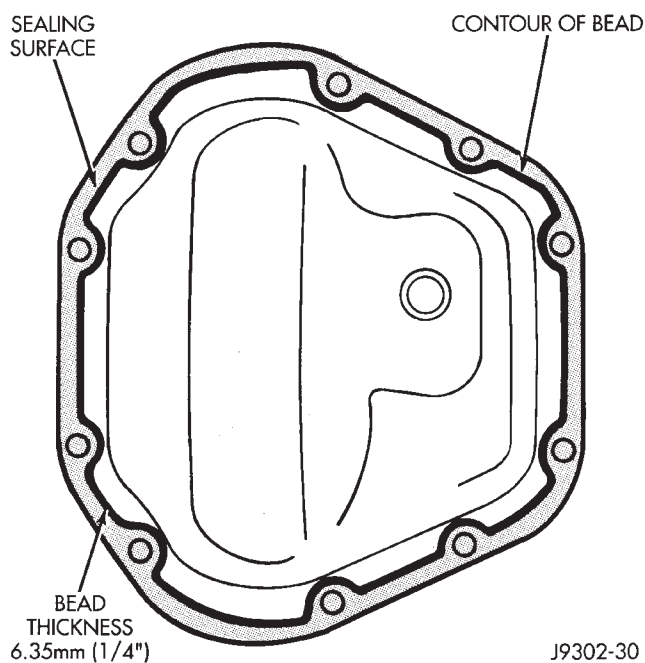

Fig. 7 Typical Housing Cover With Sealant
(1) Raise and support the vehicle.
(2) Remove the lubricant fill hole plug from the differential housing cover.
(3) Remove the differential housing cover and drain the lubricant from the housing.
(4) Clean the housing cavity with a flushing oil, light engine oil or lint free cloth. **Do not use water, steam, kerosene or gasoline for cleaning.**
(5) Remove the sealant from the housing and cover surfaces.
(6) Apply a bead of Mopar Silicone Rubber Sealant to the housing cover (Fig. 7). **Allow the sealant to cure for a few minutes.**